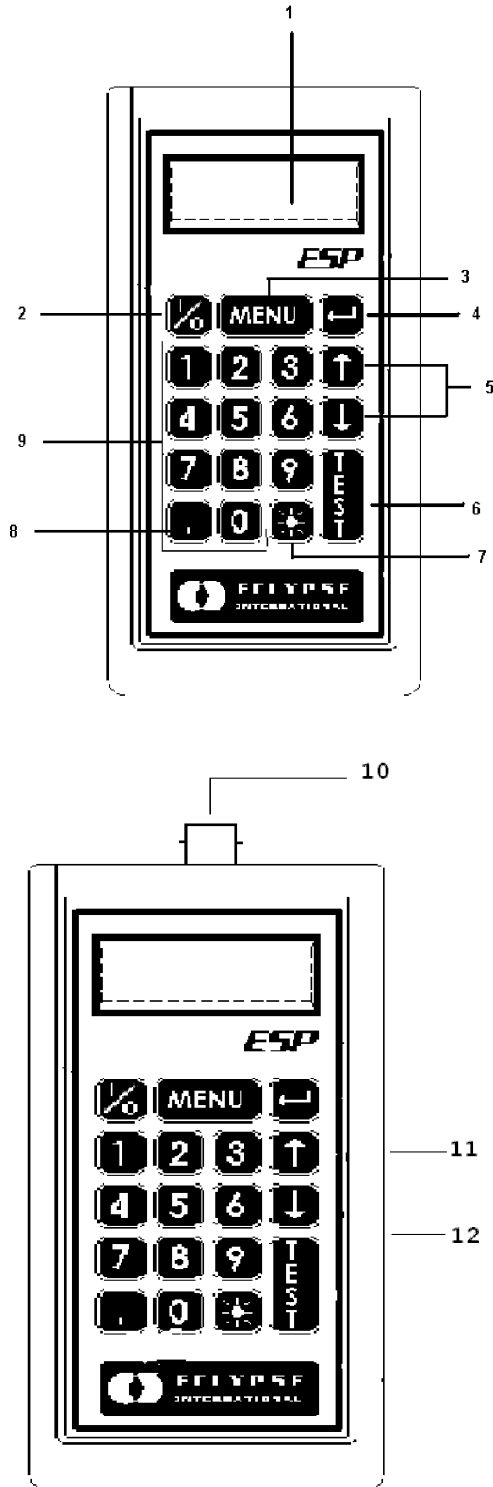

Figure 1. ESP+ Controls and Displays
19. ESP+ CONTROLS AND DISPLAYS. (See Figure 1).